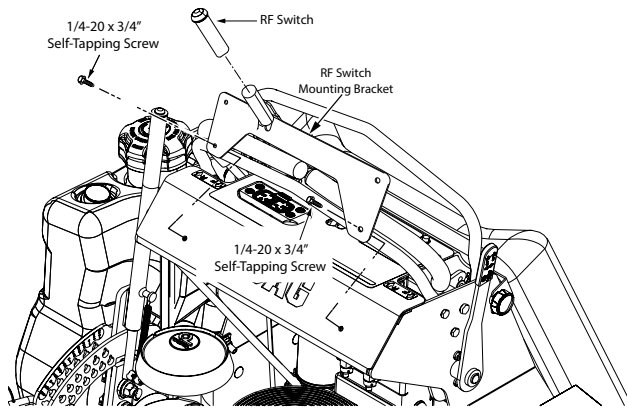

Figure 3-47. SVRXL RF Switch Mounting Bracket Installation
12. Install the RF switch mounting bracket to the control panel using the two (2) 1/4" - 20 x .75" tap tite screws included in the kit. See Figure 3-47.
14. Install the RF switch into the mounting bracket as shown in Figure 3-47. It may be necessary to add a light application of silicone to the outside of the switch to retain the switch in the bracket.